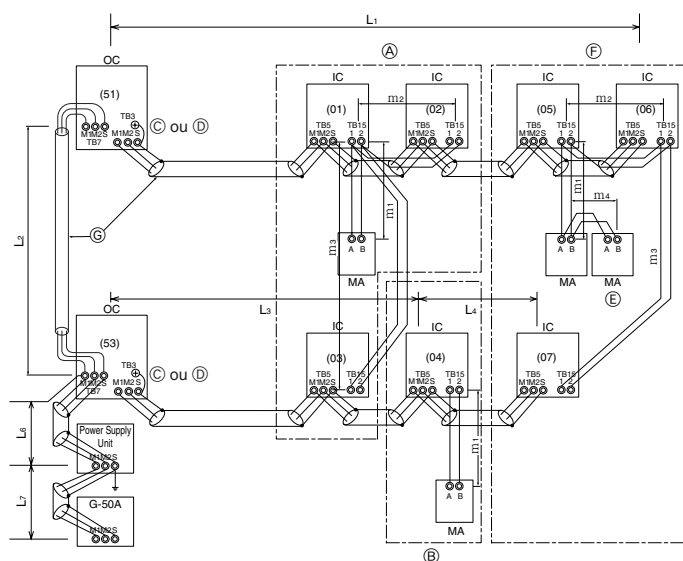

Fig. 6-3
- **Controlo Remoto MA (Fig. 6-3)**